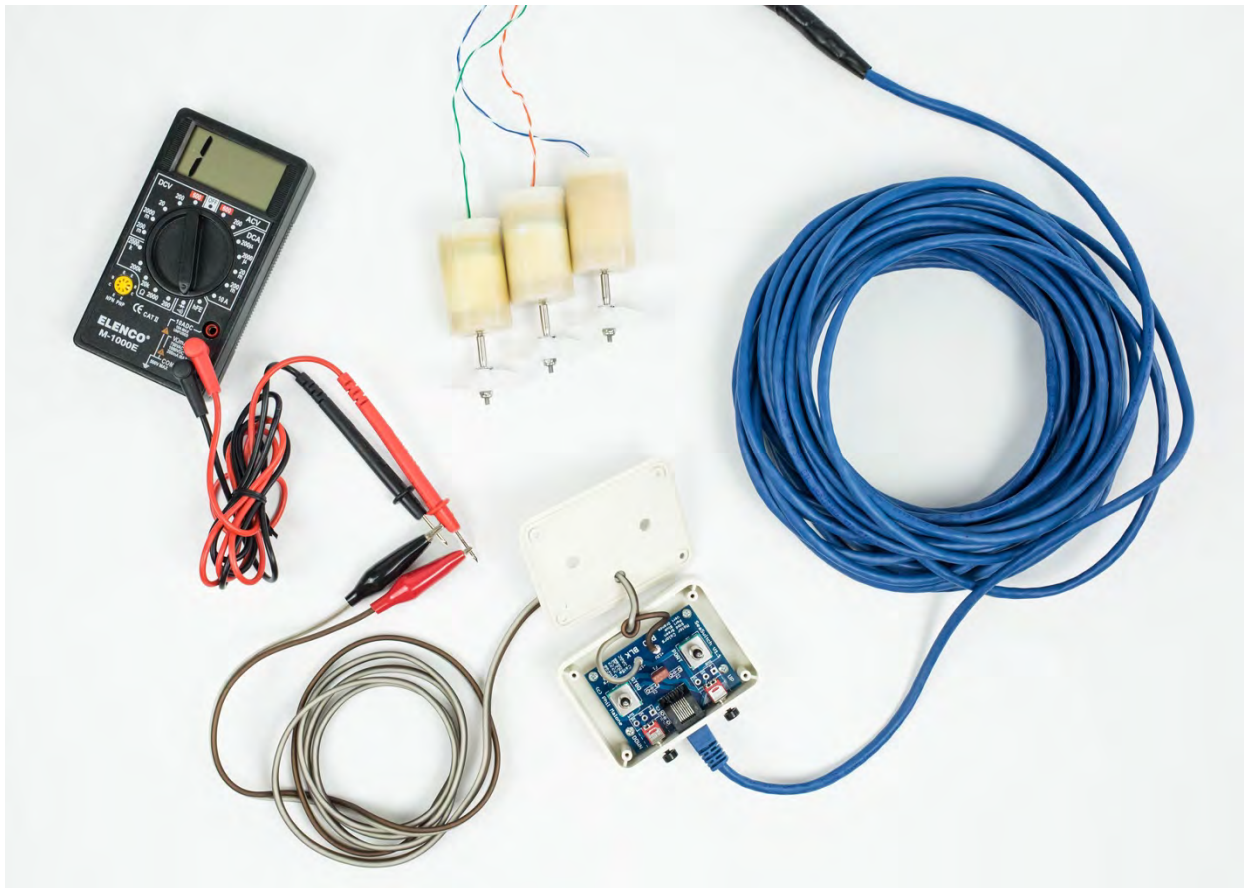

Figure 36
- ❑ Plug the tether cable connector into the controller's RJ45 connector jack. (Figure 36) The tether connector has a prong which must be oriented correctly to plug into the connector jack.